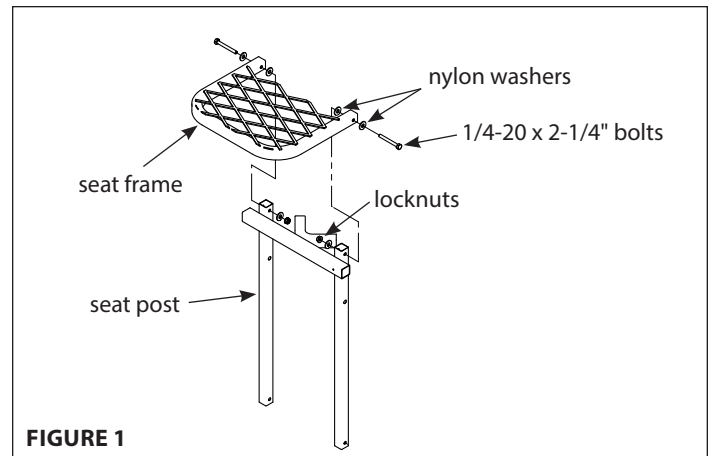

FIGURE 1
1. Bolt the metal seat frame (C33) onto the seat post using the (2) provided 1/4-20 x 2-1/4" bolts, locknuts and (6) nylon washers. **SEE FIGURES 1. DO NOT tighten all nut & bolt assemblies completely!**